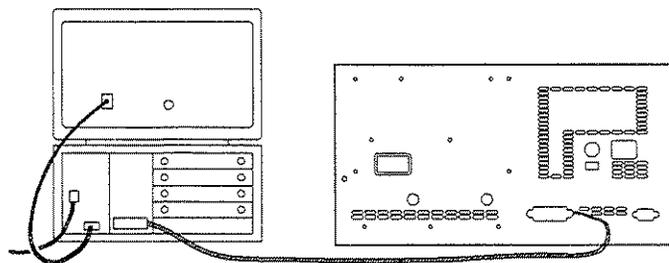

Figure 1-1. HP-IB Connections
1. Turn off the HP 35665A and the HP 9836, then connect them with the HP-IB cable as shown in figure 1-1.